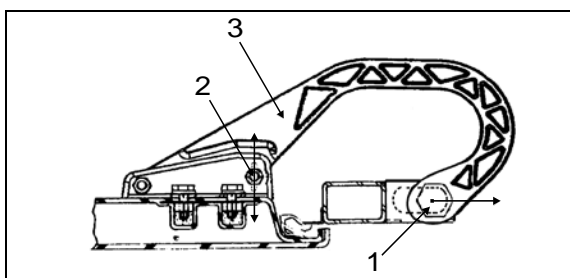

FIGURE 82: DOOR HINGE
2. Loosen nut (1, Figure 82).
3. Move part (3, Figure 82) as shown in figure for "LEFT or RIGHT" adjustment.
4. Tighten nut (1, Figure 82).
5. Loosen nut (2, Figure 82).